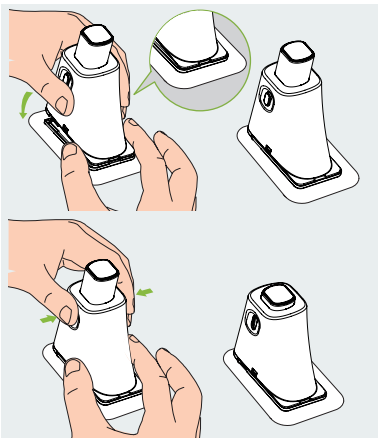

Figure 56
**4** Hold the cannula inserter and align the front end with the bottom plate of the pump base as shown in Figure 56. Press down, until you hear a “click” securing it in place. Press the release button on both sides of the cannula inserter at the same time, then the cannula will be inserted into the base and infusion site.